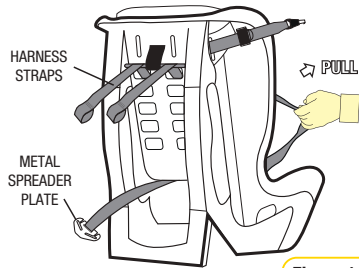

Figure 1.3
- Pull the shoulder harness straps through the shoulder slot holes in the restraint body and cover. They are now loose in the front of the restraint (refer Figure 1.3).